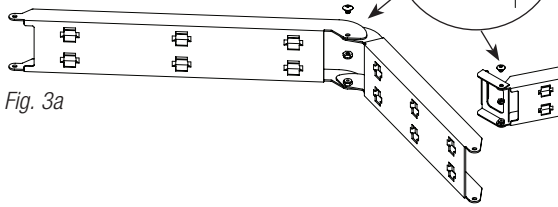

Fig. 3a
2. Attach arms to each other using bolts and lock nuts (Fig. 3a, pg. 4).